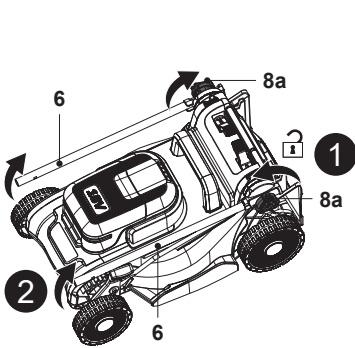

Fig. 1
2. Loosen the locking knob (8a) counterclockwise, but do not remove it, then unfold the lower handle bar (6) (Fig. 1, steps 1, 2)